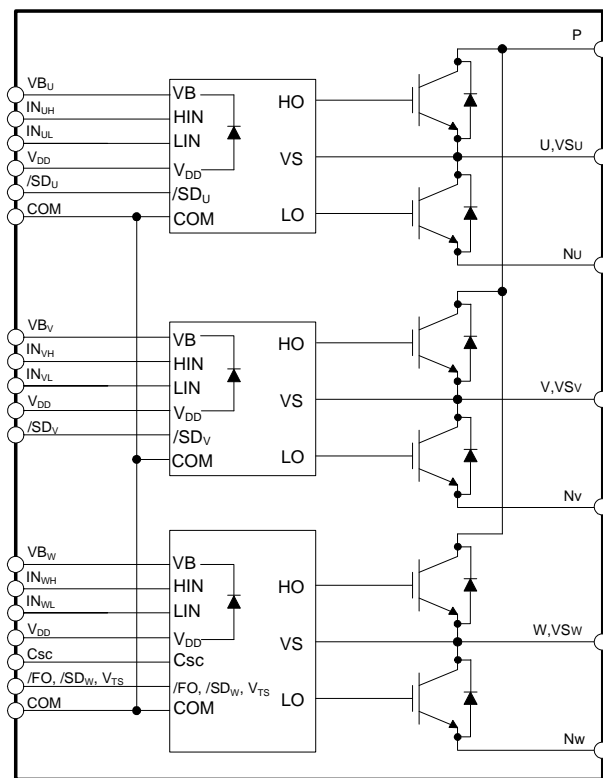

Figure 3. Internal Block Diagram
- 600 V - 5 A IGBT inverter for three phase DC / AC power conversion (*Please refer to Figure 3*)